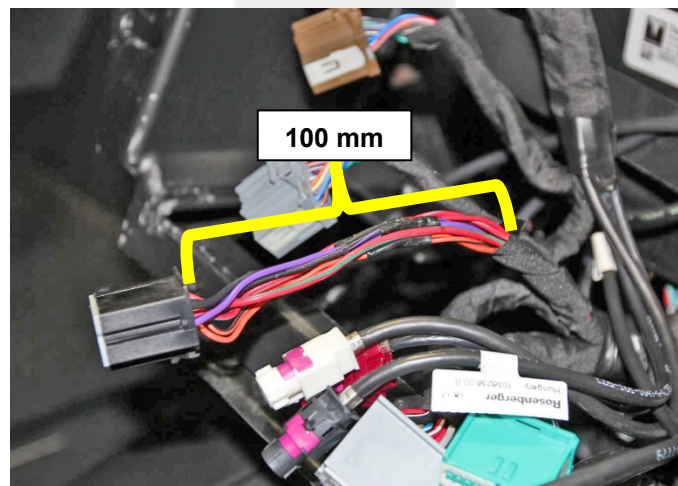

Figure 2
4. Remove approximately 100 mm of harness tape from the connector's harness (Figure 2).